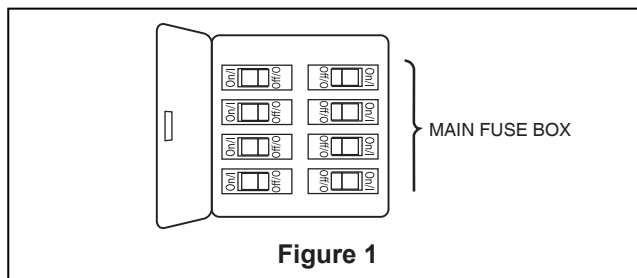

Figure 1
1. Cut off excess lead wire approximately 6 to 9 inches above top of the downrod. Strip insulation 1/2 inch from the end of each lead off wire. (Figure 1)
To avoid possible fire or shock, be sure electricity is turned off at the main fuse box before hanging. (Figure 1)
<p>To avoid possible electrical shock, be sure electricity is turned off at the main fuse box before wiring (Figure 1).</p>
1. Remove one of the two shoulder screws in the hanger bracket. Loosen the second shoulder screw without fully removing it. Assemble canopy by rotating key slot in canopy over shoulder screw in hanger bracket. Tighten shoulder screw. Fully assemble and tighten second shoulder screw that was previously removed. (Figure 1)